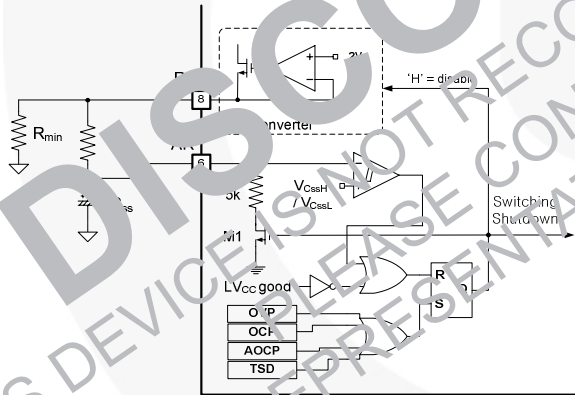
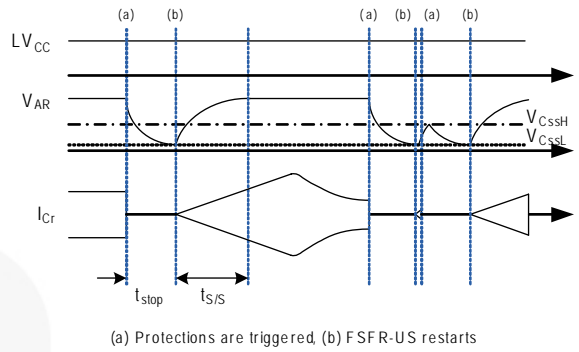

Figure 20. Internal Block of AR Pin
Figure 21. Self Auto-Restart Operation
4. Self Auto-restart: The FAN7621S can restart automatically even if a built-in protection is triggered with external supply voltage. As shown in Figure 20 and Figure 21; once any protections are triggered, M1 switch turns on and V-I converter is disabled. C_{SS} starts to be discharged until the $V_{C_{SS}}$ across C_{SS} drops to $V_{C_{SSL}}$. Then all protections are reset, M1 turns off, and V-I converter resumes. The FAN7621S starts switching again with soft-start. If the protections occur while $V_{C_{SS}}$ is under $V_{C_{SSL}}$ and $V_{C_{SSH}}$ level, the switching is terminated immediately, $V_{C_{SS}}$ continues to increase until reaching $V_{C_{SSH}}$ then C_{SS} is discharged by M1.
5. Protection Circuits: The FAN7621S has several self-protective functions, such as Over-Current Protection (OCP), Abnormal Over-Current Protection (AOC), Over-Voltage Protection (OVP), and Thermal Shutdown (TSD). These protections are auto-restart mode protections, as shown in Figure 21.